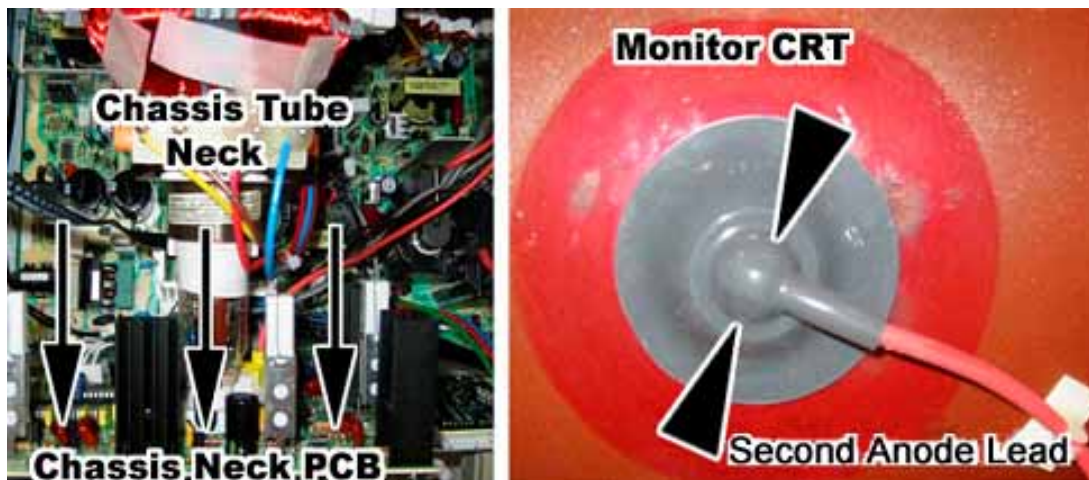

Figure 27. Disconnecting the Chassis Neck PCB and Second Anode Lead
6. Disconnect the second anode lead that connects to the CRT just above the Chassis Tube. Be very careful as the second anode lead can be charged with a VERY HIGH VOLTAGE even when powered OFF. Pinch the gray rubber flange and slightly push in to un-hook the metal prongs that hold the second anode lead to the CRT, shown by the arrows in Figure 27.